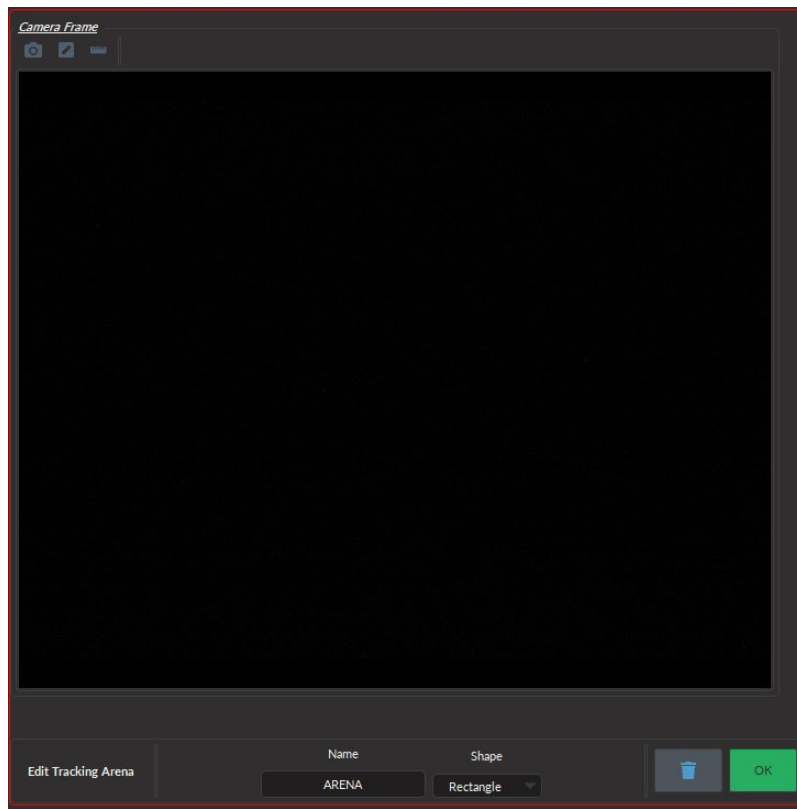

Figure 6.26: Camera Frame - Draw tracking arena
- b) The **Draw tracking arena** (Fig. 6.26) is used to draw a shape on a still frame of the video to define the part of the image that corresponds to the animal arena. If no arena is defined, the entire image will be set at the arena. Clicking this widget will display two options:
- i. The **Name** (Fig. 6.26) box allows choosing a name for the arena.
- ii. The **Shape** (Fig. 6.26) drop-down menu sets the geometrical shape that will be used when drawing the arena area. The user can select between: *Freehand*, *Rectangle*, *Circle*, and *polygon*.